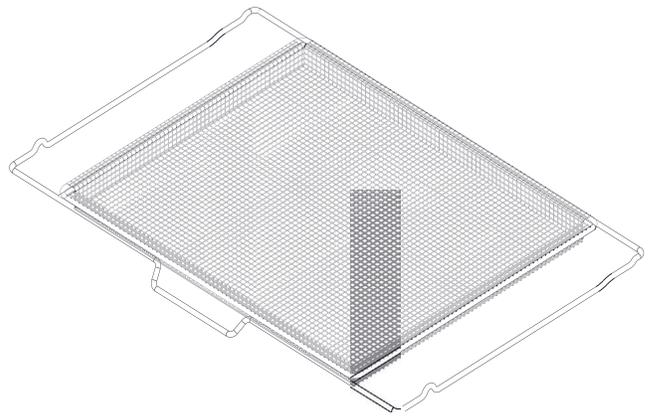

Figure 4: Air Fry Tray
- For baking cakes use the following rack positions and place bakeware as shown in Figure 4.